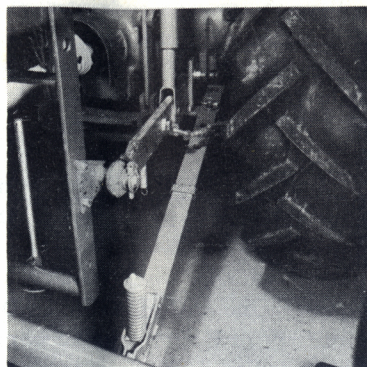

Fig. 16
- Attach the release bar to the hole on the mower body, see Fig. 16. Place the fixing clamps of the bar as far forward on the hydraulic arm as possible. If the release bar is too long, shorten it at the front end.